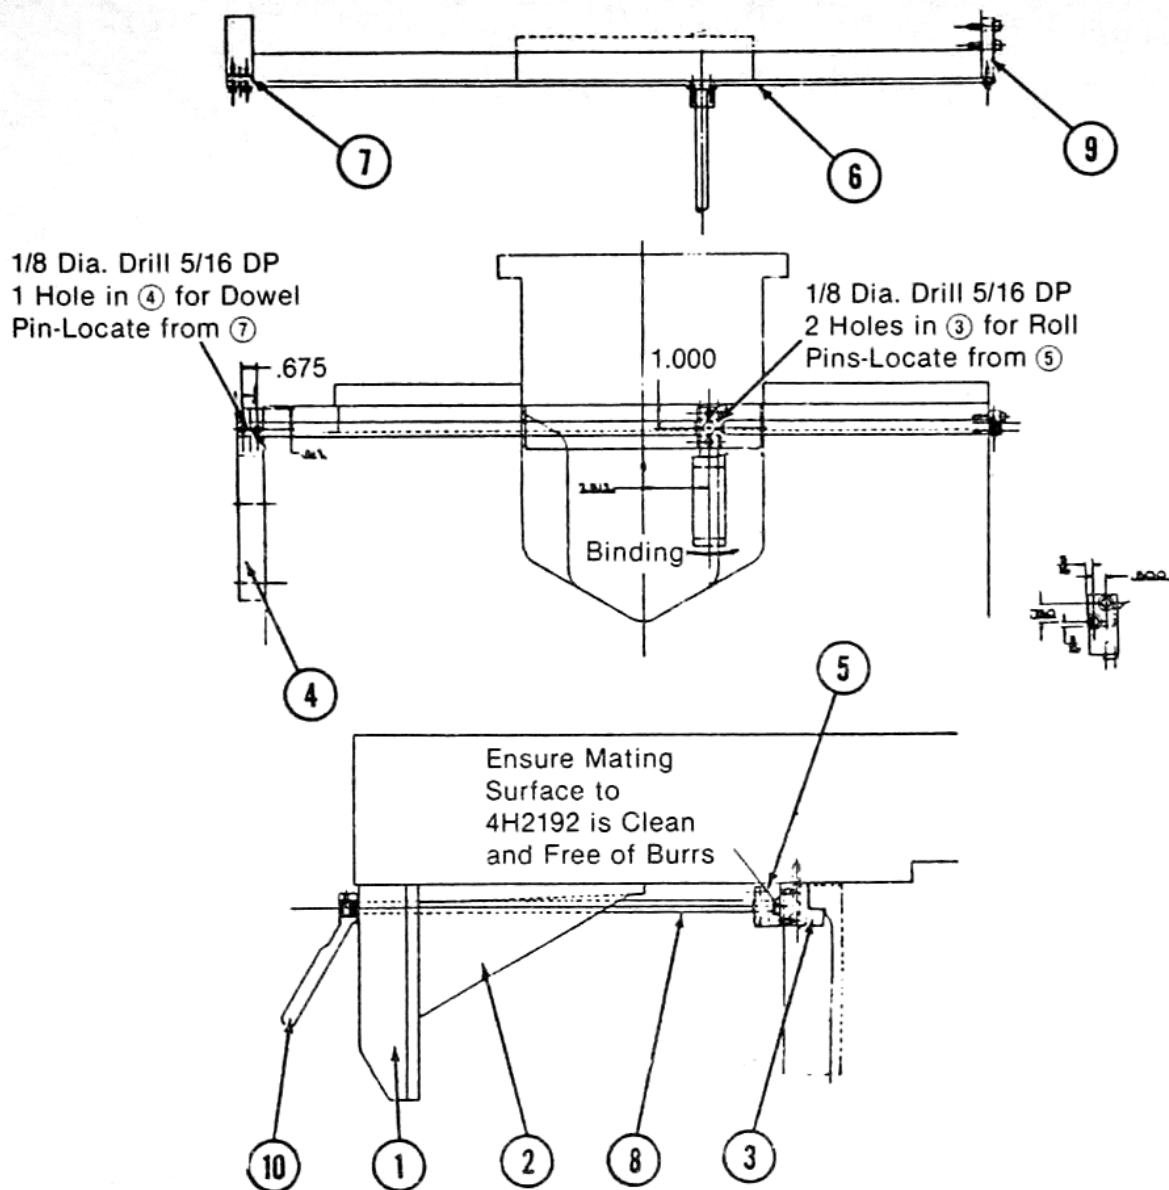

Figure 12-1 Y-Axis Reed Clamp Installation
12.2 INSTALLATION OF Y-AXIS REED CLAMP— Figure 12-1
2. Remove the cover (1) and remove the X-axis drive motor. Refer to Section 10.3.3, X-Axis Drive Motor Replacement.
3. Remove the motor mounting bracket (2).
4. Remove the saddle hold down (3) and install new clamp (3) provided with tapped holes. Torque the mounting to 33 ft. lbs.
5. Remove the knee-column hold down clamp (4) and install new clamp (4) provided with tapped holes.
6. Install the new X-axis drive motor bracket (2).
7. Mount the brake block (5), binding strip (6) and spacer (7) to the knee and saddle with all mounting screws loose.
8. Install the saddle locking shaft (8) through the X-axis motor mounting bracket (2).
9. Install the front binding strip mounting bracket (9) to the binding strip (6) and clamp it to the knee.
10. Turn on the power and drive Y-axis full travel. Snug up all capscrews, changing the position of the bracket (9) if necessary. Ensure free travel without binding or friction. Tighten all capscrews and drill and tap the front of the knee per Figure 12-1. Install the capscrews.
15. Install the cover (1).
16. Install the saddle lock handle (10) and check the proper action of the Y-axis clamp.